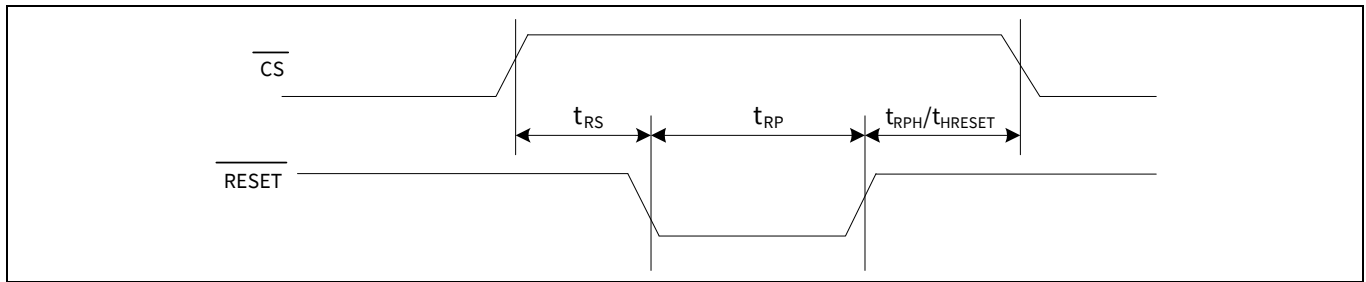
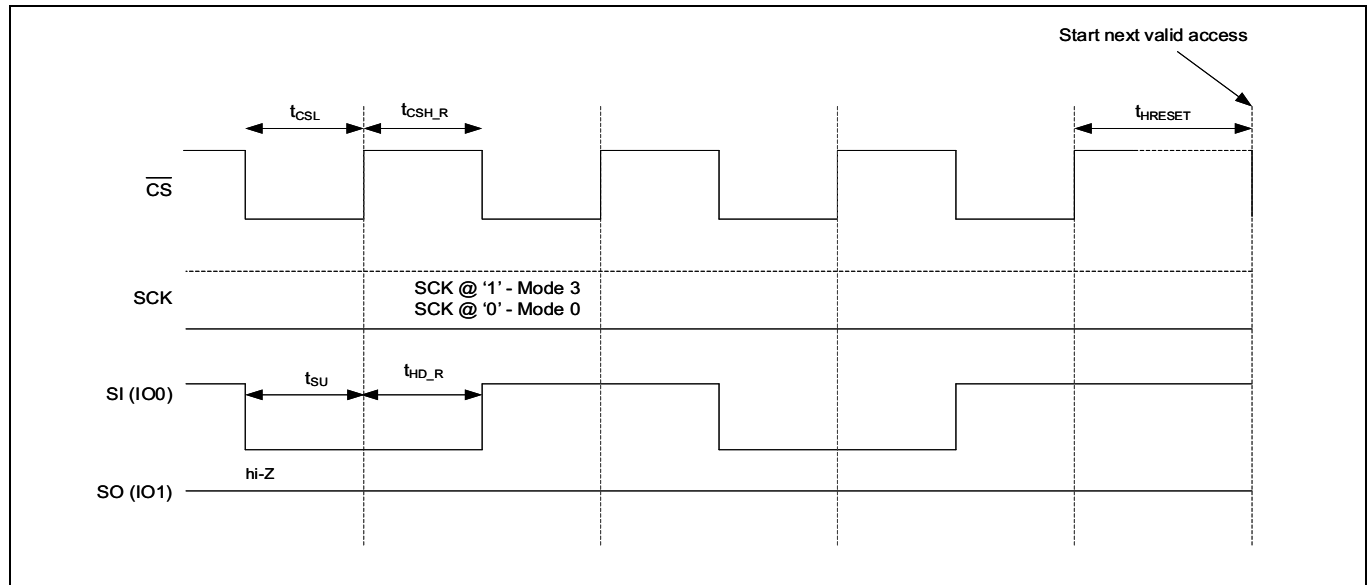

Figure 109 **RESET** timing - SPI with Quad set (CR1[1]= '1') or QPI enabled (CR2[6] = '1')
Figure 111 JEDEC SPI reset
The hardware reset input ($\overline{\text{RESET}}$) is multiplexed on ($\overline{\text{RESET}}$ / (I/O3) and is an active LOW signal in CY15x204QSN device. Refer to Table 21 for hardware reset ($\overline{\text{RESET}}$) pin configurations across various SPI interfaces. When $\overline{\text{RESET}}$ is pulled LOW, CY15x204QSN self initializes and brings its configuration back to the power up status. See Table 59 for different registers configuration after $\overline{\text{RESET}}$ cycle. Once $\overline{\text{RESET}}$ is issued, CY15x204QSN takes $t_{\text{RPH}}/t_{\text{HRESET}}$ time from $\overline{\text{RESET}}$ rising edge to complete the reset cycle. CY15x204QSN becomes inaccessible during t_{RPH} time. Figure 109 to Figure 111 show the $\overline{\text{RESET}}$ timings in different reset mode.
- The $\overline{\text{RESET}}$ pin is multiplexed on I/O3 in the QPI mode. When using the hardware ($\overline{\text{RESET}}$) in QPI mode, the CR2 [5] bit must be set to '1' to enable to use I/O3 as $\overline{\text{RESET}}$ input when CS is HIGH. Figure 109 shows the $\overline{\text{RESET}}$ / (I/O3) timing in QPI mode.
Refer to Figure 111 for timing details.